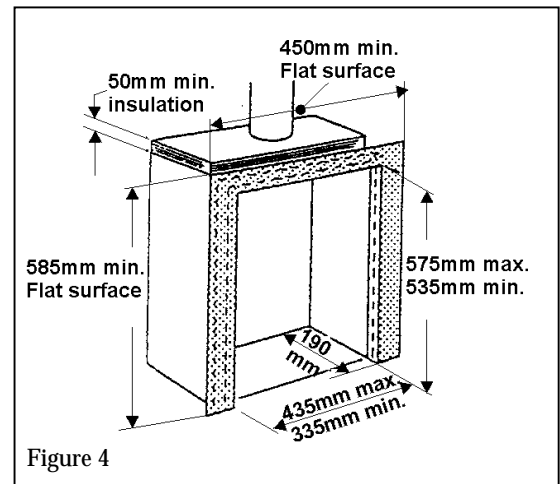

Figure 4
2.11.3 A twin wall metal flue system conforming to BS715, the flue diameter being a minimum of 125mm (See figure 4) with a minimum internal diameter of 190mm. Incombustible mineral wool insulation of not less than 50mm thickness must be applied to the top surface of the system firebox and must stand on a non-combustible base of 25mm thickness.